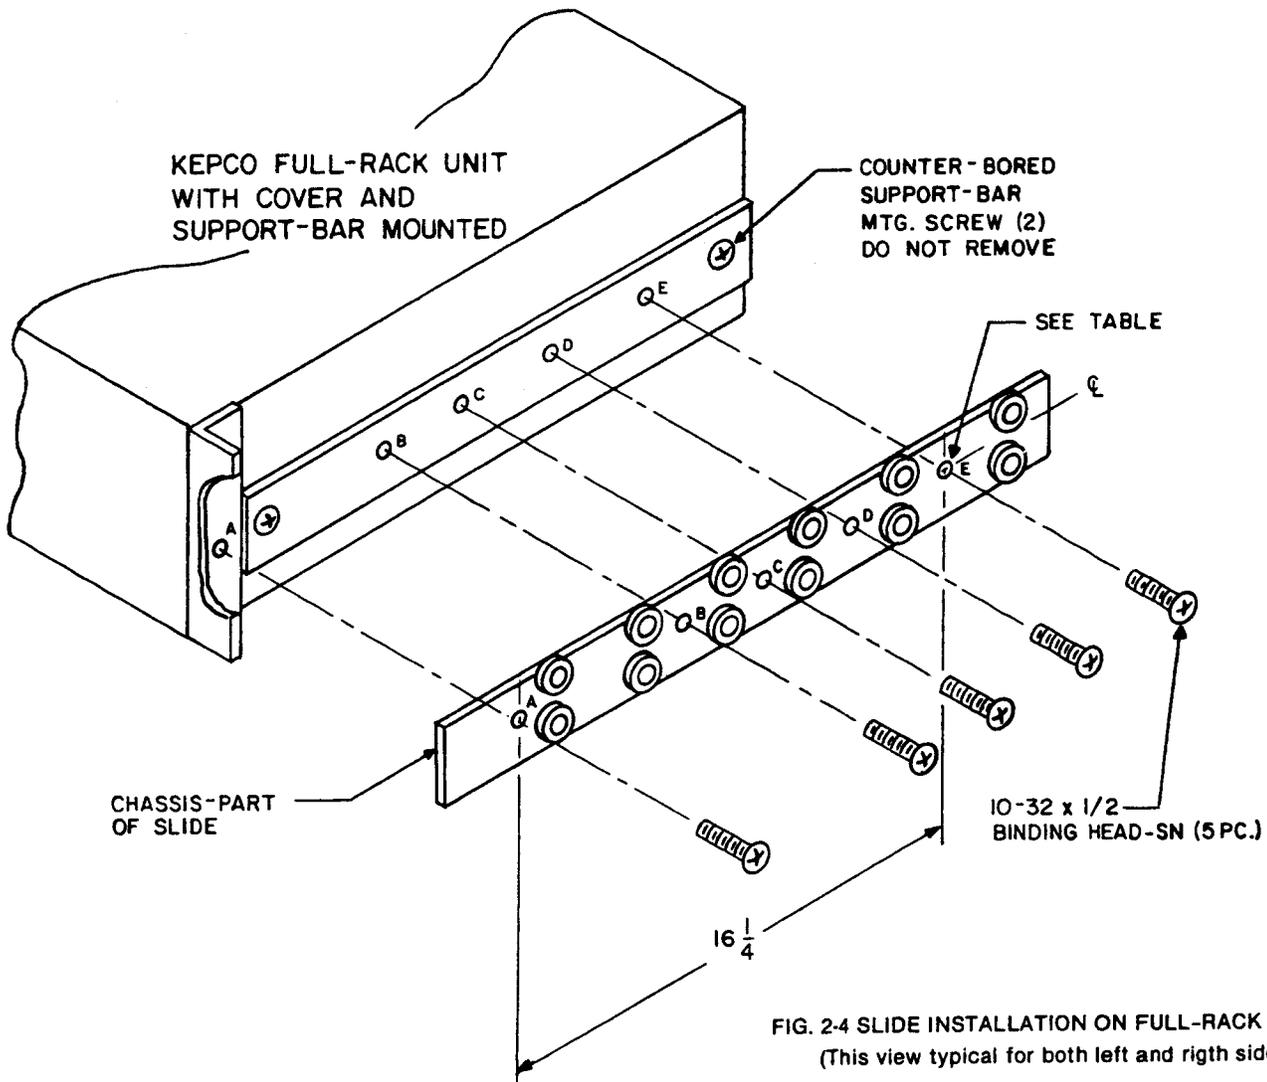

FIG. 2-4 SLIDE INSTALLATION ON FULL-RACK UNITS
2-12 INSTALLATION OF FULL-RACK BOP MODELS (Refer to Section I, Fig. 1-4 and to FIG. 2-4).
2-15 PROCEDURE (Refer to FIG. 2-4):
- 4) Mount the chassis section of the slide to the left and right side of the BOP, as shown in FIG. 2-4. Use the same 10-32 x ½" Mounting Screws which you removed in step (1).